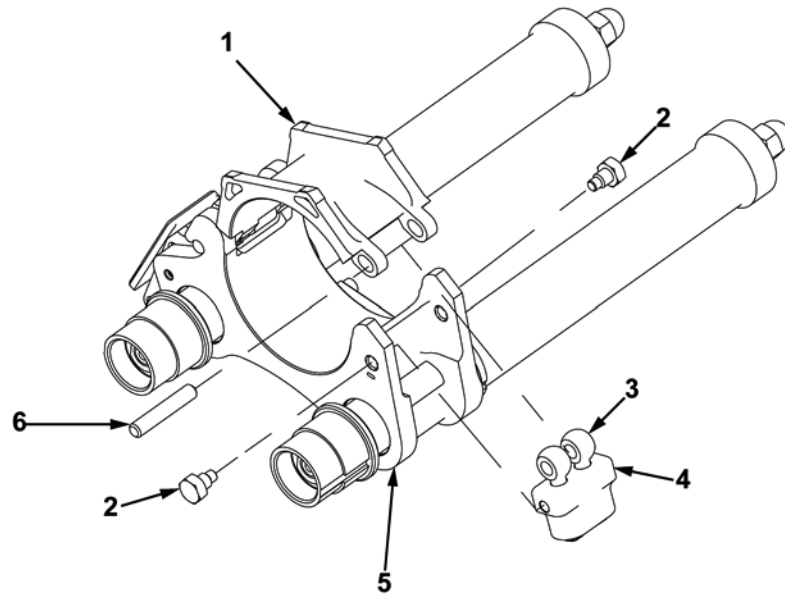

Figure 9. Temporary Install of Spring Pack Housing.
12. Install two eyebolts (Figure 9, Item 3) into belleville housing (Figure 9, Item 4).
13. Align eyebolts (Figure 9, Item 3) with holes in upper clamp (Figure 9, Item 1). Install headless straight pin (Figure 9, Item 6) in upper clamp.
14. Align holes in belleville housing (Figure 9, Item 4) with holes in lower clamp (Figure 9, Item 5). Temporarily install two machine bolts (Figure 9, Item 2).